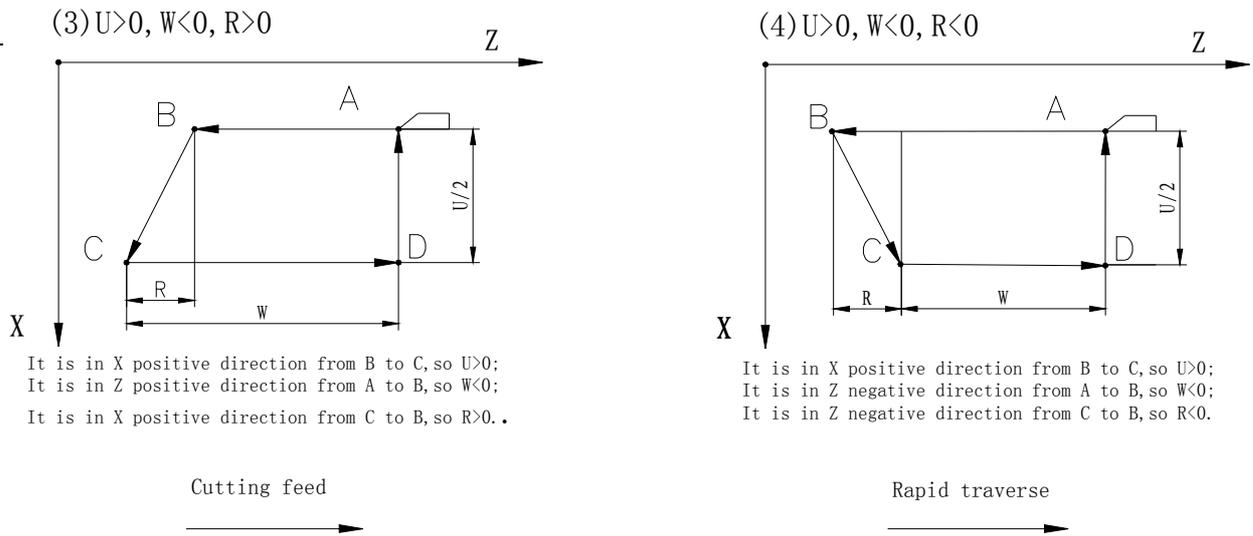

Figure 19 Relationships between U, W, R sign and tool path in G94
**Example 1:** Fig. 19 a, the first feed= 5 mm, the second feed= 1.5 mm, F=80 mm/min, and its programming as follows:
**Example 2:** Fig. 19 b, feed R=-5 mm once, feedrate=100 mm/min and its programming as follows:
**Note 2:** The computation method of max. taper R( as Fig. 19 b):